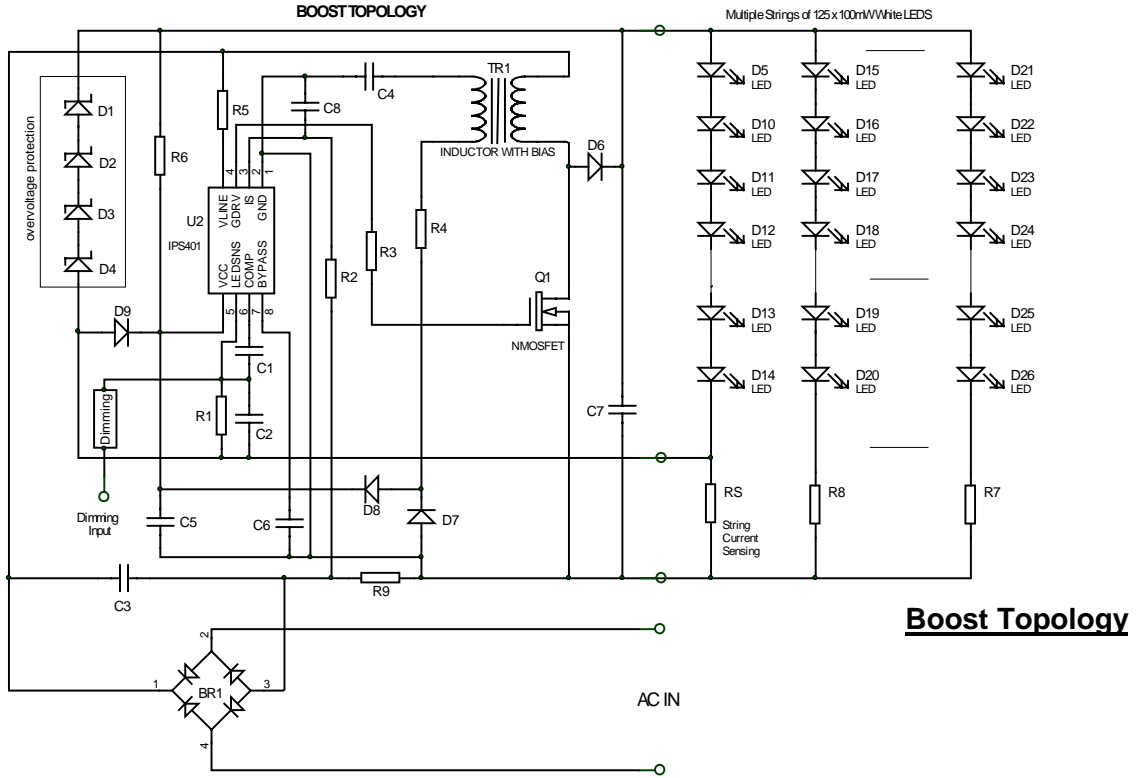

Figure 1
The IPS401 includes a voltage error amplifier between pin 6 and pin 7. Its non-inverting input is connected to an internally trimmed 2.18V reference. Its output connected to pin 7, is internally connected to a V-to-I converter/multiplier. As indicated in the typical application schematic of figure 1, pin 6 and pin 7 are used for the following purposes:
- (c) the loop feedback compensation network R1, C1, C2 (see Fig. 1) provides a suitable network for most applications. More complicated schemes are possible for demanding applications where transient response is paramount.